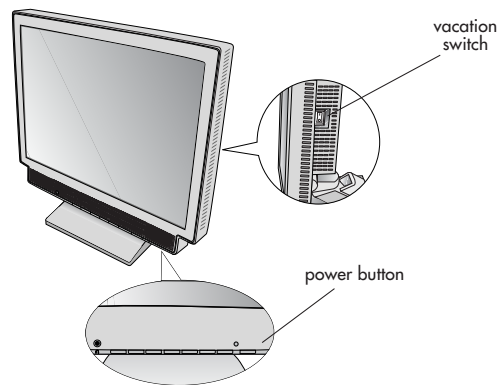

Figure G.1
8. The vacation switch on the right side of the monitor must be turned on (**Figure G.1**). Turn on the monitor with the front power button and the computer.